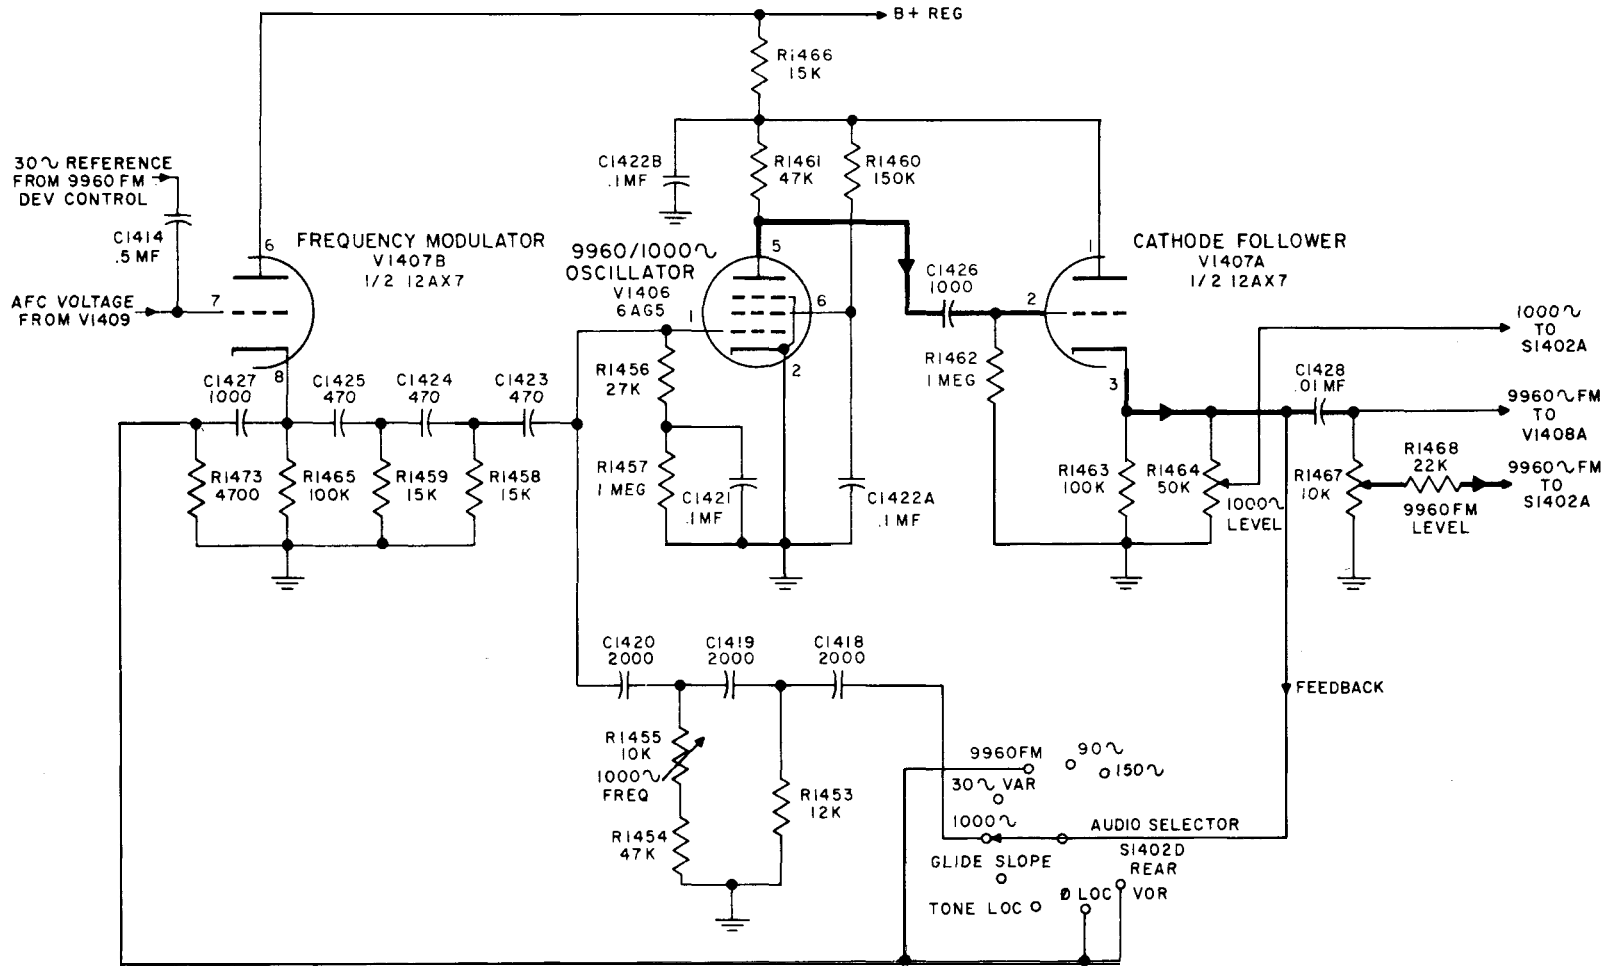

Figure 4-16. 9960 and 1000 CPS Oscillator V1406, Cathode Follower V1407A and Frequency Modulator V1407B, Simplified Schematic
(See figure 4-16.)
tune the secondary to 9960 cps. 9960 FM FREQ control C1434 adjusts the center operating frequency of the discriminator which in turn controls the center frequency of V1406. When V1406 is operating with a center frequency of 9960 cps, the diodes V1409A and B conduct equally and equal but opposite voltages are developed across R1471 and R1472 giving no voltage in the output. When the V1406 frequency decreases, V1409B conducts more heavily than V1409A and a positive afc voltage appears in the output. This positive voltage is filtered by R1474, C1430 and R1475 to remove the 30-cps component and fed to the grid of frequency modulator V1407B (figure 4-16). A positive voltage on the grid of V1407B increases its cathode current or decreases its output impedance. The decrease in output impedance will increase the frequency of V1406 so that it oscillates 9960 cps.
c. TONE LOC. 90 cps and 150 cps from the LOC-GS attenuator are fed to S1402B. Switch section S1402C again grounds the 30 cps variable phase signal and section S1402D (figure 4-16) disables the 9960 cps oscillator.